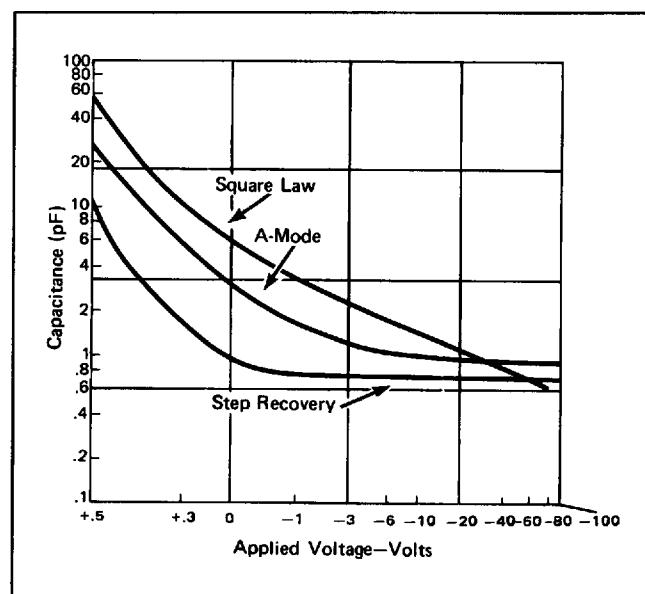
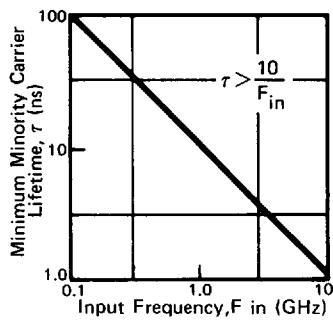
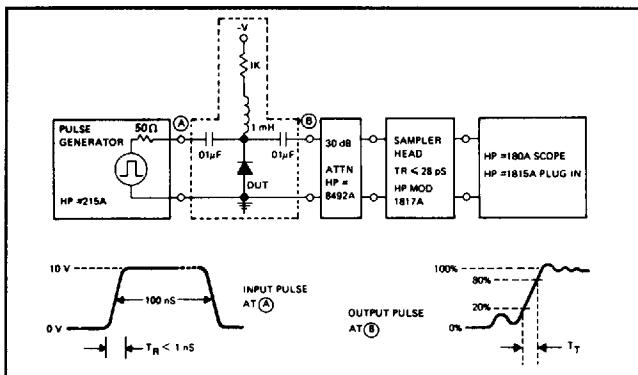
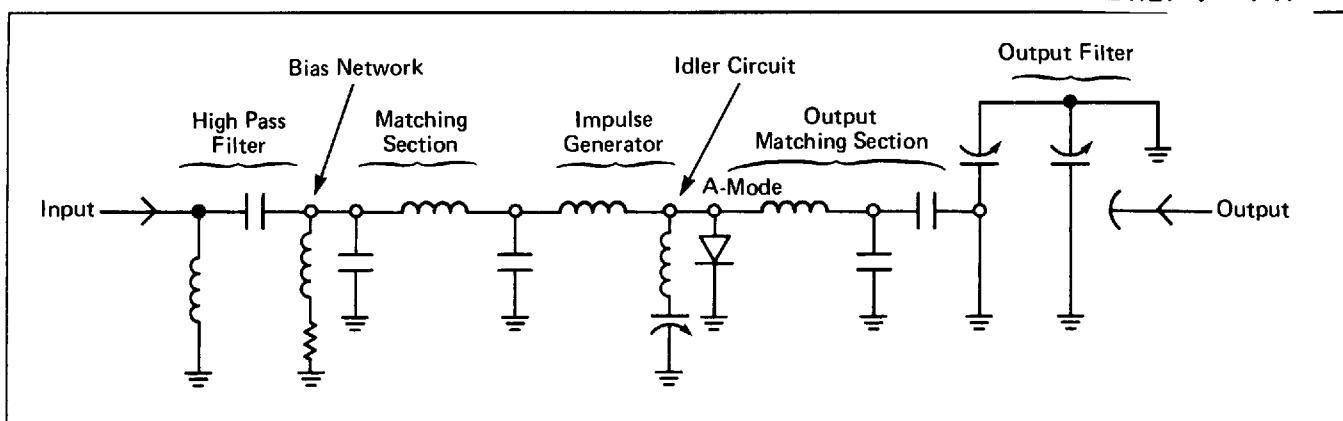

Figure 1. Capacitance vs. Applied Voltage for Square Law and A-Mode Multipliers and Step Recovery Diodes
Figure 2.  $\tau$  vs  $F_{in}$
Figure 4. Minority Carrier Lifetime,  $\tau$ , Test Set-Up
Figure 6. Typical A-Mode Multiplier Circuit
than the period of the output frequency. Figures 2 and 3 are graphs which can be used to easily determine the limiting values  $s$  and  $T_T$ . Test circuits to determine  $t$  and  $T_T$  are shown in Figures 4 and 5. For optimum performance an ideal A-Mode will be a punch-through device at minus 10 volts (any increase in reverse bias above minus 10 volts will not decrease capacitance significantly), but will have a highly non-linear capacitance increase as the diode is toward zero volts. This can be clearly seen in Figure 1. A-Mode diodes are highly efficient, and circuits with 10 to 20% bandwidth are possible. Idlers are needed for  $N > 2$ . A typical A-Mode circuit is shown in Figure 6.
3. Measured in Circuit of Figure 4;  $I_F = 10$  mA,  $V_R = 10$  Volts.